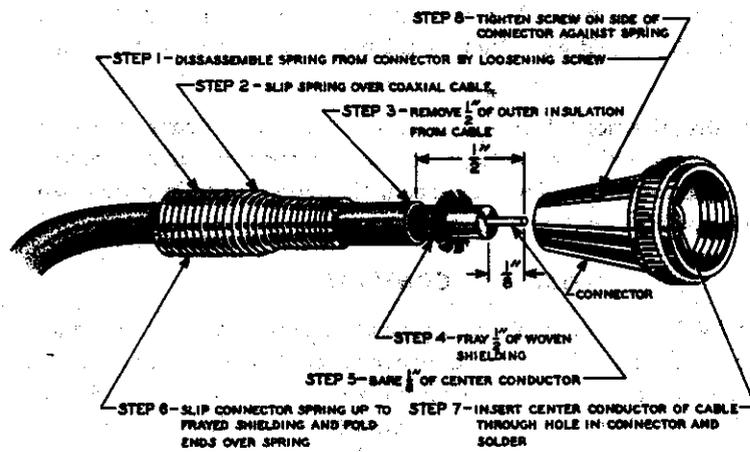

FIGURE 16A
- (✓) Remove the small set-screw from the cable plug and remove the spring from the plug. Slide the spring, large hole first, over one end of the shielded cable. Remove ½ inch of the outer insulation from the cable. Unravel the braid and bend it back over the spring. Remove ⅛ inch of the insulation from the inner conductor. Twist the stranded leads together and coat them with solder. Insert the cable and spring into the open end of the plug. The inner conductor must fit into the small hole of the plug. The braid and spring should fit into the plug so that the set screw will tighten on the spring. Tighten the set screw. Solder the inner conductor to the eyelet. See Figure 16A.